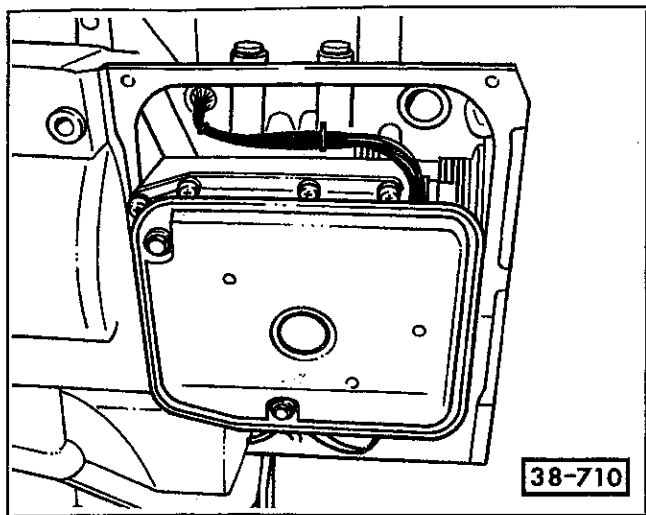

Fig. 26. 096 automatic transmission fluid strainer.
5. Remove ATF strainer mounting bolts and remove ATF strainer (filter). See Fig. 26.